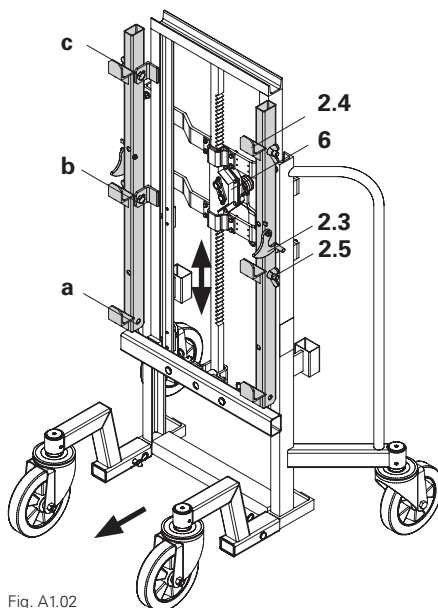

Fig. A1.02
(Fig. A1.02)
3. Pre-adjust connection height with the winch (6).
- (Fig. A1.02)